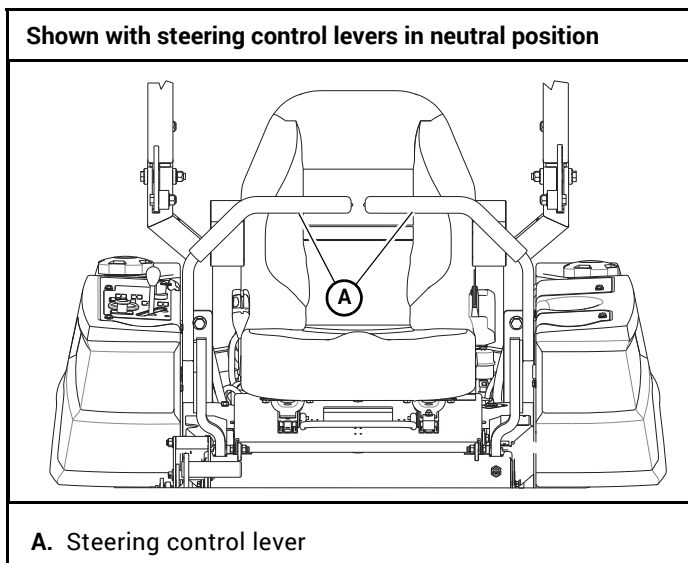
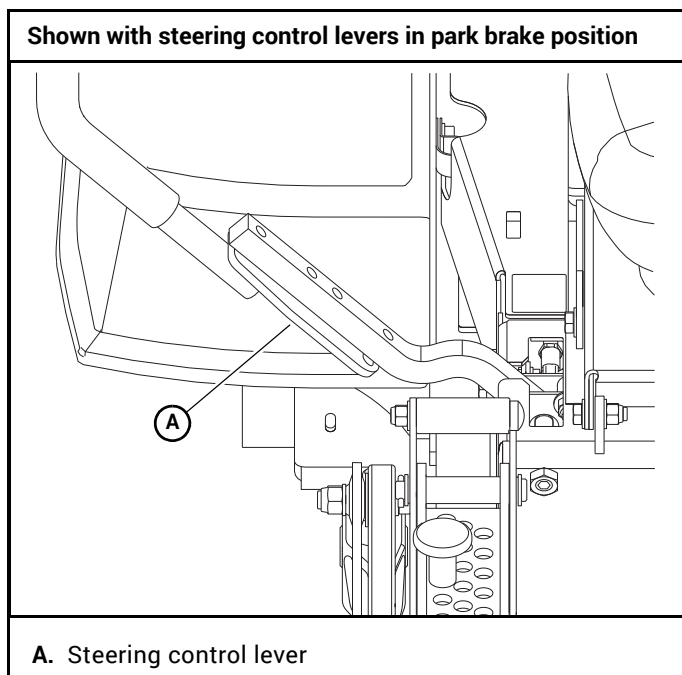

Figure 3-4
Figure 3-5
- A. **Steering control levers (Figure 3-4 & Figure 3-5)** – these levers control the mower’s speed, direction, stopping, and park brake.